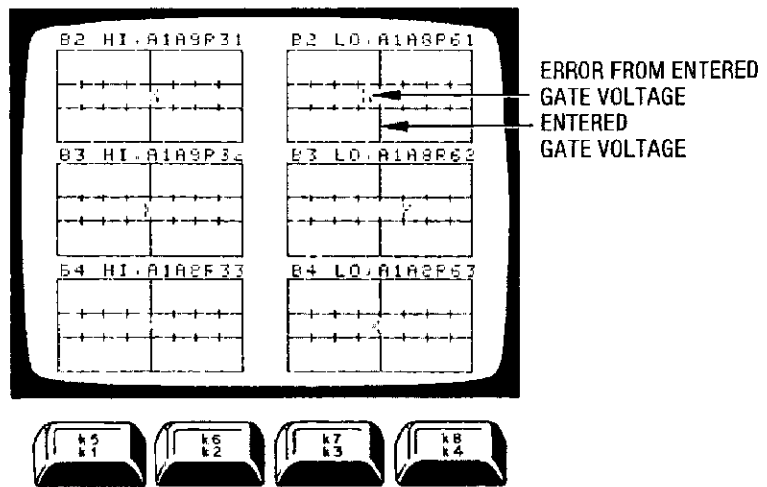

Figure 5-20. Gate Voltage Adjustment for HP 8673C/D
- c. Gate bias voltages are adjusted for bands 2, 3, and for the HP 8673D, band 4. A maximum of six rectangles are drawn on the controller screen, each one representing an adjustment. The center of the rectangle represents the entered gate voltage. The flashing "X", which represents the error from the entered gate voltage, is adjusted to within one-half division of the rectangle center. See figure 5-20.